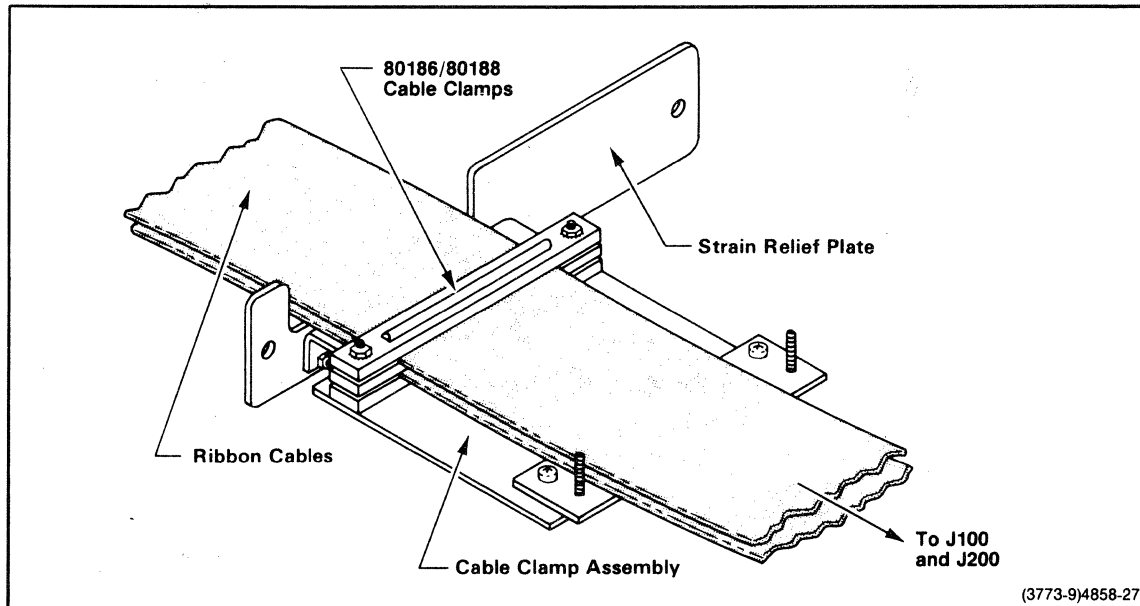

Figure 6-6. Ribbon cable installation.
9. Mount the two 6-foot prototype control probe ribbon cables to the cable clamp assembly using the new clamps provided. Secure the cable clamps with hex nuts and lock washers. Figure 6-6 illustrates the ribbon cable installation. Allow enough ribbon cable to reach connectors P100 and P200 on Board II in J15 of the Main Interconnect Board in the development system's card cage.